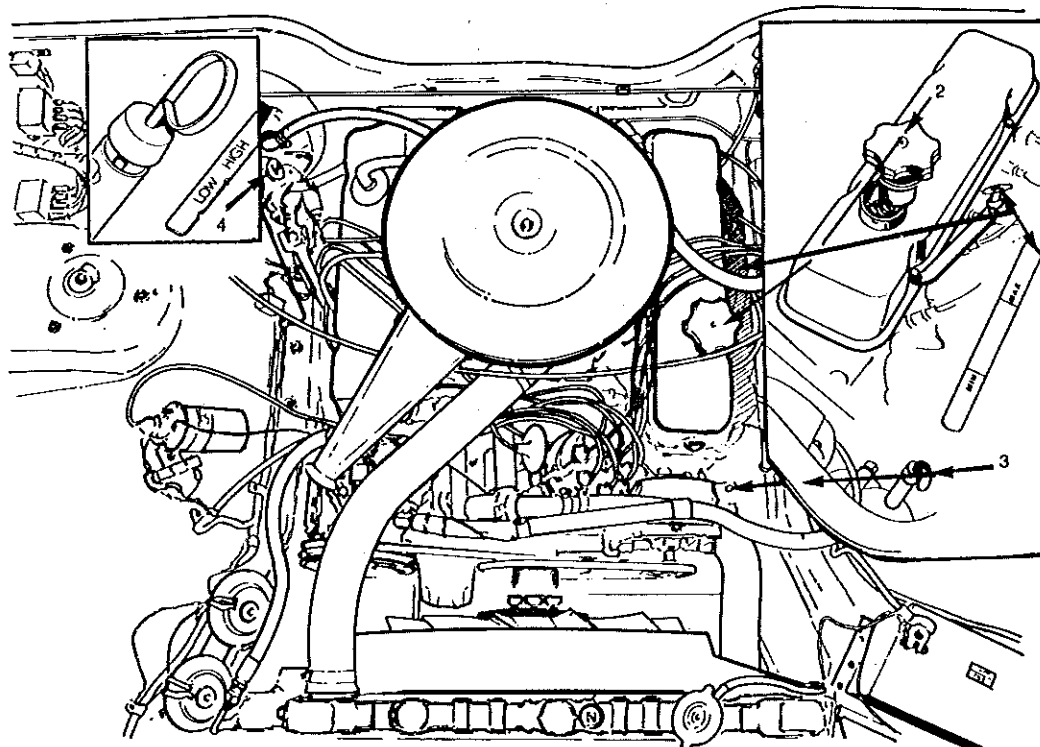

Fig. C-2
**8 CYLINDER ENGINE:** On left hand side of cylinder block between second and third cylinders. Fig. C-2.
**8 CYLINDER ENGINE:** Located near the front of the left hand side valve cover. Fig. C-2.